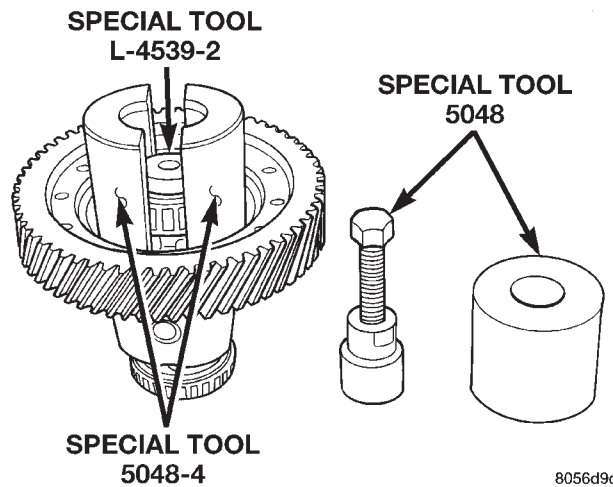
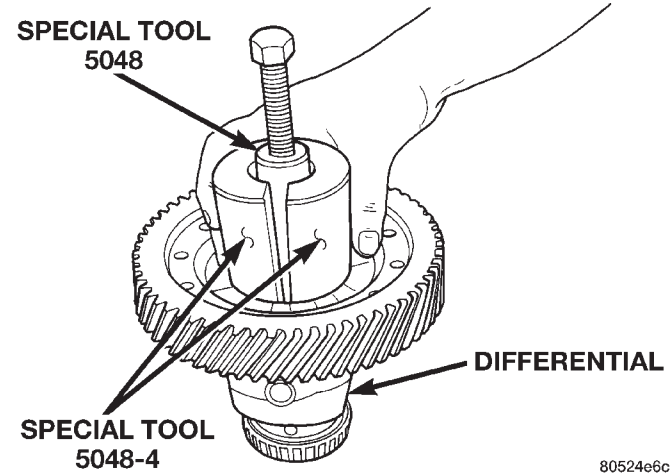

Fig. 306 Position Button and Collets Onto Differential and Bearing (Ring Gear Side)
Fig. 307 Position Tool 5048 Over Button and Collets at Differential Bearing (Ring Gear Side)
(4) Use Miller Special Tool 5048, 5048-3 Collets, and L-4539-2 Button to remove the differential bearing cone on the extension housing side.
(5) Use Miller Special Tool 5048, 5048-4 Collets, and L-4539-2 Button to remove the differential bearing cone on the bearing retainer side (Fig. 306) (Fig. 307) (Fig. 308).